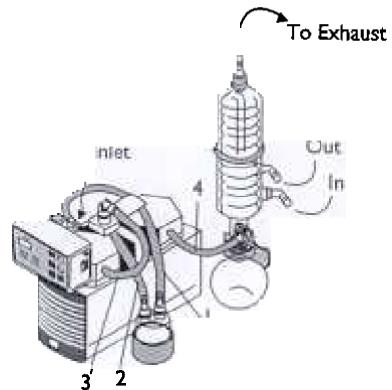

Fig. 10:Tubing Connection SC (twin head pumps).
- ★ Tubing: see figure 10. Choose tube material which is resistant to the media to be used.
- ★ Tubing of twin head pumps: see figure 10. When connecting single head pumps, study the information sheet that accompanies the accessories. Choose tube material which is resistant against the media to be used.